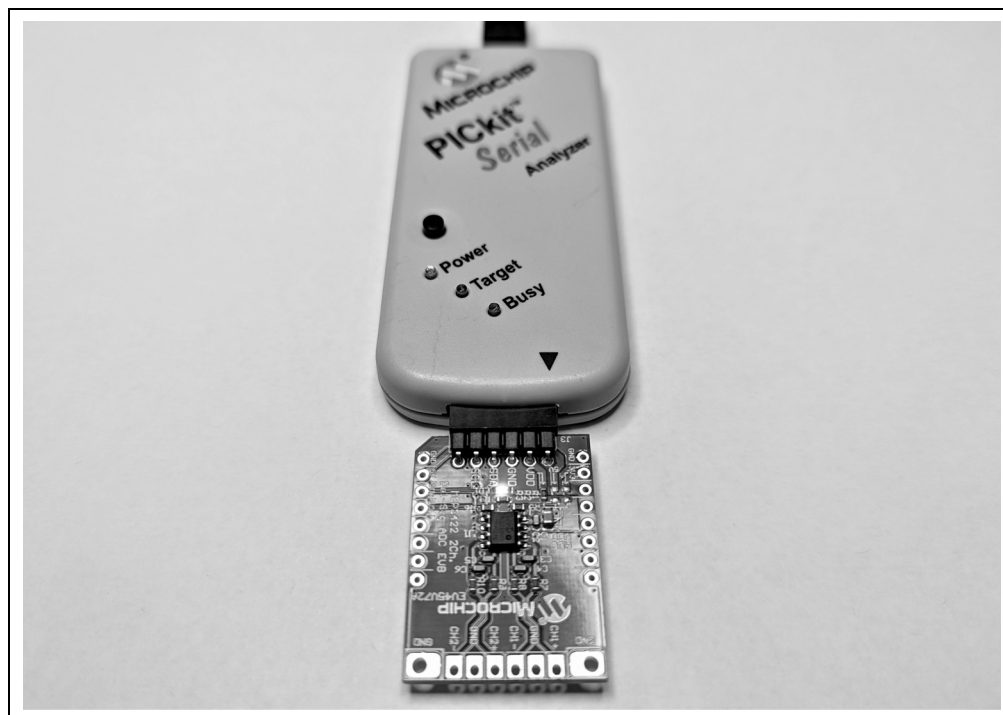

FIGURE 2-1: MCP3421/2 SOT-23-6 Evaluation Board with the PICkit™ Serial Analyzer.
2. Connect the MCP3421/2 SOT-23-6 Evaluation Board's J3 pin header to the PICkit™ Serial Analyzer, as shown in Figure 2-1.